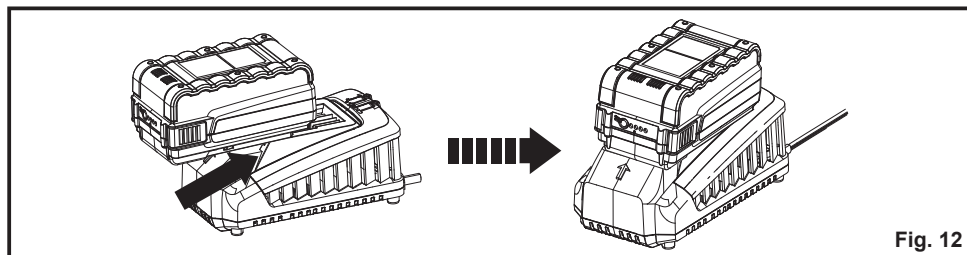

Fig. 12
1. Align the slot of the battery pack with the rail on the charger. Slide the slot onto the rail until the battery pack secures into place (Fig. 12).